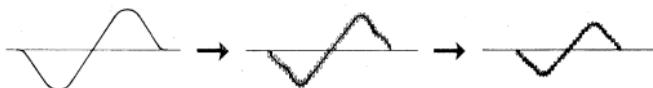

Fig. 10
- 1) Set the Signal Generator output level to 26 dB ( $\pm 3$  dB) and connect this output to the FM Antenna Terminal of Model AS-8100 through the termination pad, and connect the vertical input of the Oscilloscope as well as the distortion meter input to Terminal (8) (AF Output) of AM IF P.C. Board.
- 3) Turn semi-fixed resistor VR-1 counter-clockwise to position at which Oscilloscope sine waveform is completely erased (do not turn beyond this point). If in this waveform erasing process, the waveform is not erased and appears as in Fig. 10, the mute circuit is defective.